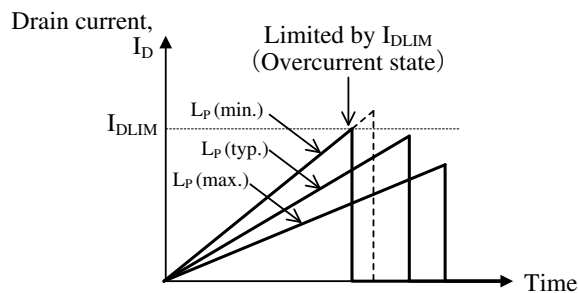

Figure 13-2 Relation between L_P and drain current I_D
- 2) The peak value of drain current I_D in normal operation is determined by L_P value. Since the slope of I_D is expressed as V_{DS}/L_P , the smaller the L_P value, the steeper the slope of I_D becomes. Thus the peak value of drain current becomes high as shown in Figure 13-2. The IC limits the peak current by drain current limit I_{DLIM} (Overcurrent state). If L_P value becomes small by variation, there is the case that the system is in overcurrent state. Then the designed output power cannot be achieved. Thus the L_P value should be determined after the confirmation in actual operation using minimum L_P value within the variation, where the peak current value should be less than $I_{DLIM}(\text{MIN})$ in minimum input voltage of power supply.